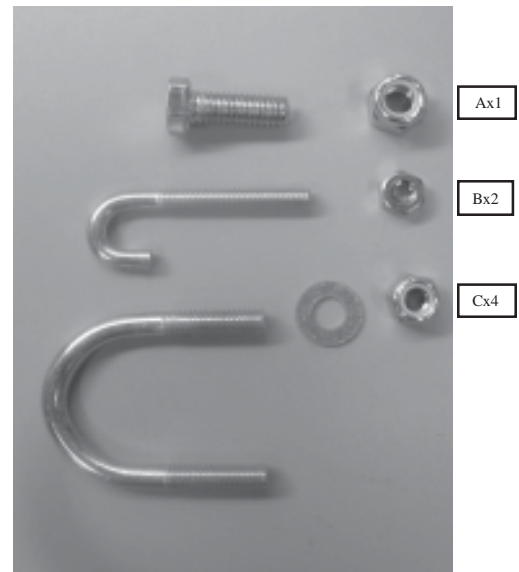

Figure 1
1. Install the plow mount using the fastener configurations as shown in Figure 1.